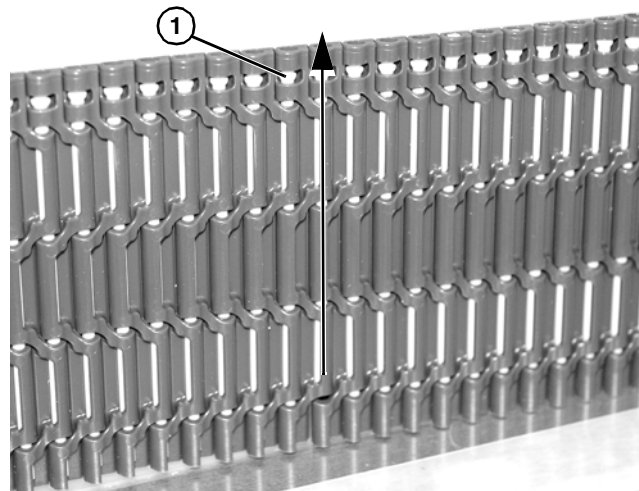

Figure 38
1. Choose one link on either end of the conveyor to remove belt pin. Locate end of rod without retaining feature (Figure 38, item 1).